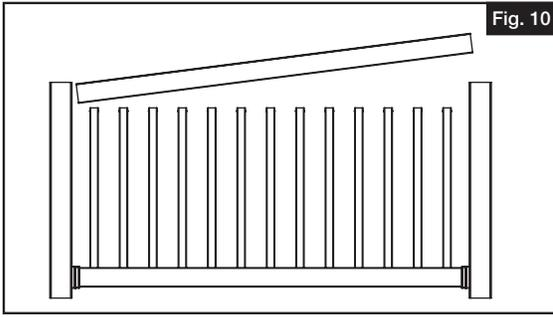

Fig. 10
- a. Begin at one side of rail and align first baluster with first routed hole on bottom side of top rail and snap top rail into position (Fig. 10).